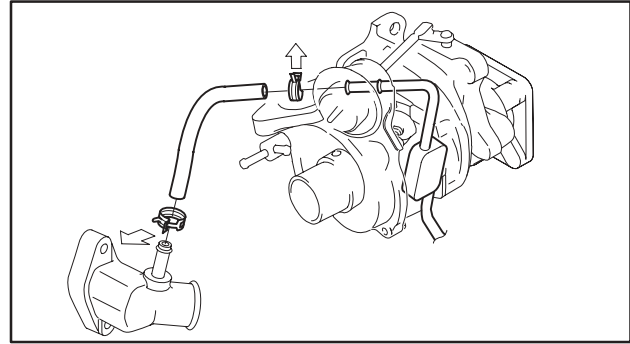

Fig. 36 – Install Coolant Outlet Hose
7. Install coolant outlet hose from turbocharger to coolant inlet housing as shown, Fig. 36. Install clamps with tabs as shown.